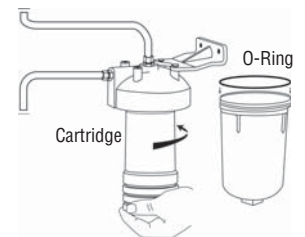

Figure 11
11. Install cartridge by threading into head about 5-6 revolutions. Do not overtighten. Lubricate o-ring with a thin film of a silicone based lubricant and put it back in housing groove. Thread the housing back on the head and hand tighten. Using of wrench to tighten the housing may damage housing and result in water leakage. (Figure 11)